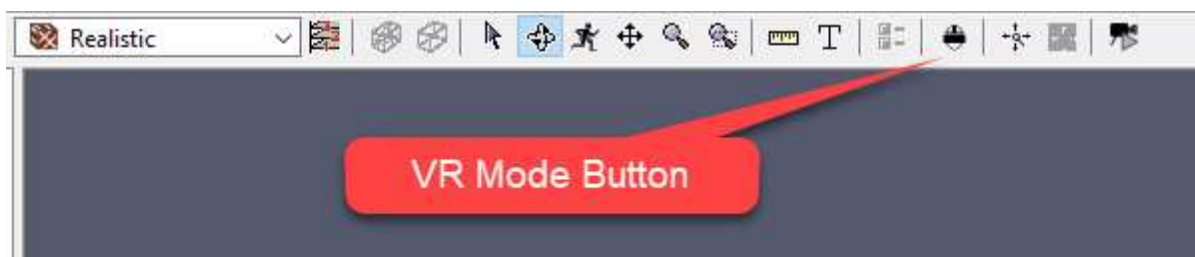

Figure 33. VR Button
4. Verify that there is a VR button in the main toolbar as shown in Figure 33. If it is greyed out, see Section 3.4.